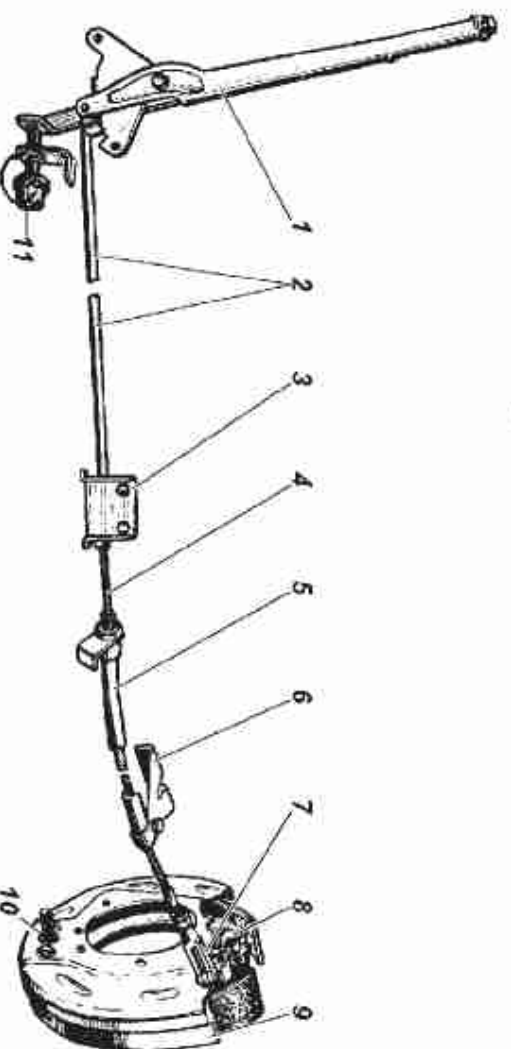

Fig. 9.34. Parking Brake Drive;
2. Move parking brake lever 1 (Fig. 9.34) into its extreme front position.